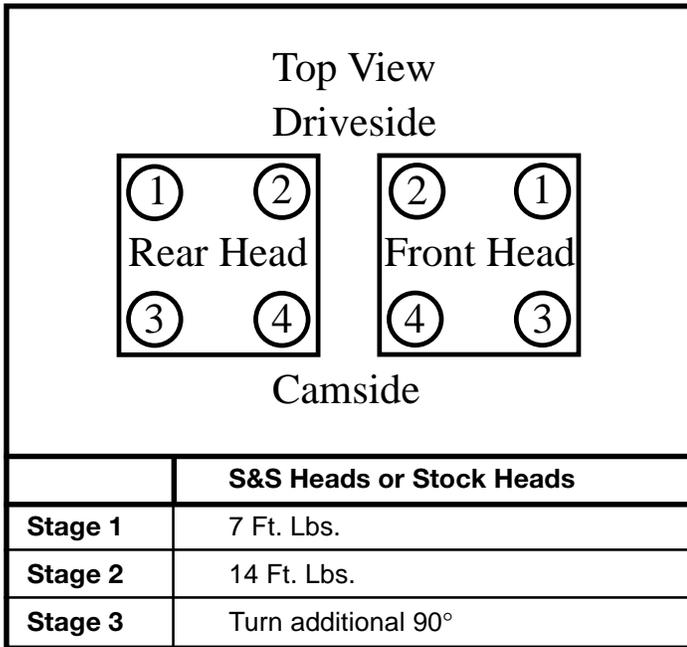

Figure 3
6. Bolt heads on cylinders. Tighten bolts in stages using crossing pattern. Follow the stock bolt tightening sequence, and use stock three stage procedure and torque values shown in Figure 3. **See Figure 3.**